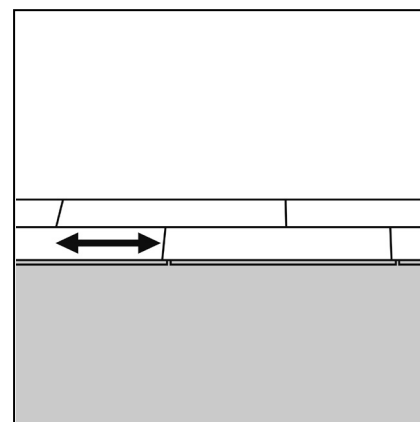

Figure 51 First plank, first row
- > Insert the upper male profile of the long side of the plank into the corresponding lower profile of the long edge of the plank in the previous row, at a slight angle. Press down until it locks into place. Always try to stagger the short joints approx. 150mm from the nearest short joint in the previous row; (Fig 51). Do not forget to include the required expansion gap to the wall.